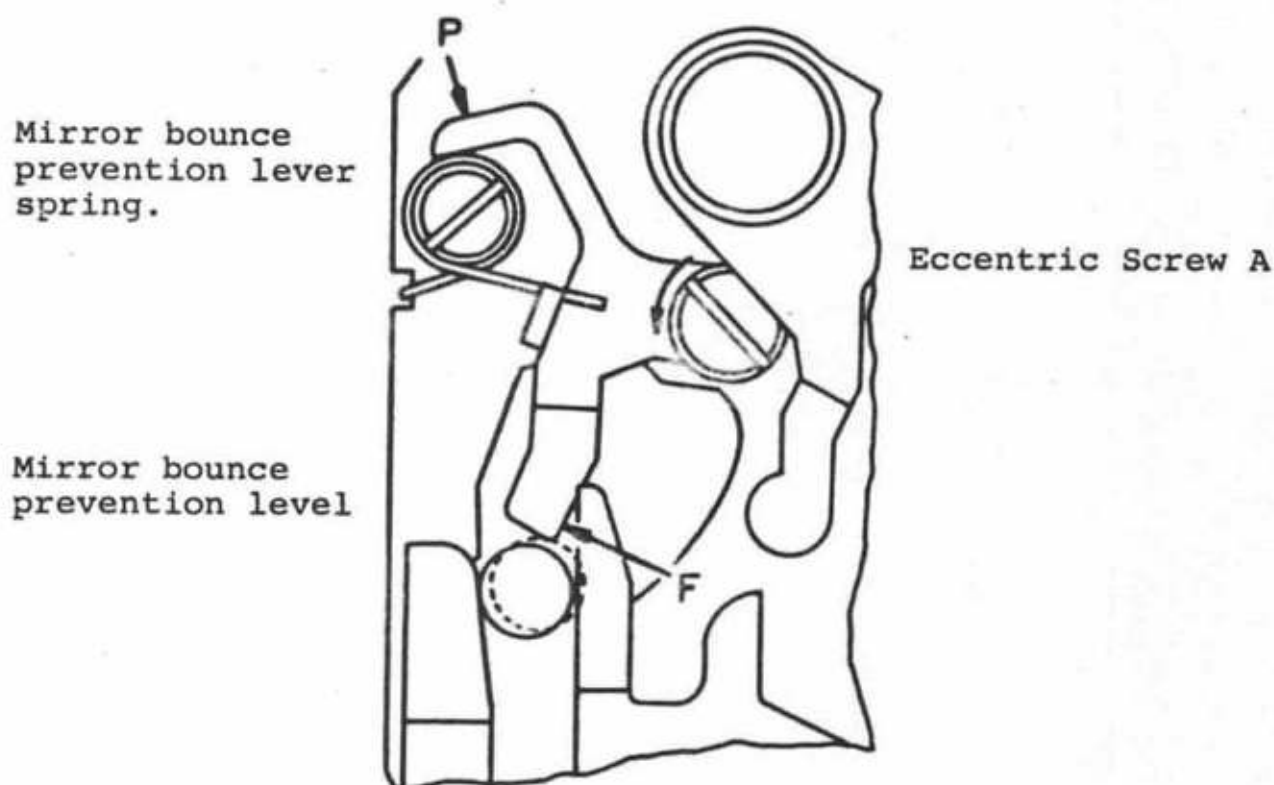

Fig. 2-8
1. The force required to just start the mirror bounce prevention lever, applied at "F" in figure 2-8 should be between 10 and 20 grams. It is adjusted by changing the jump prevention Spring (CS1-6109-000)
- 3) The mirror angle should change 16' to 48' from the normal position. (Fig. 2-8)